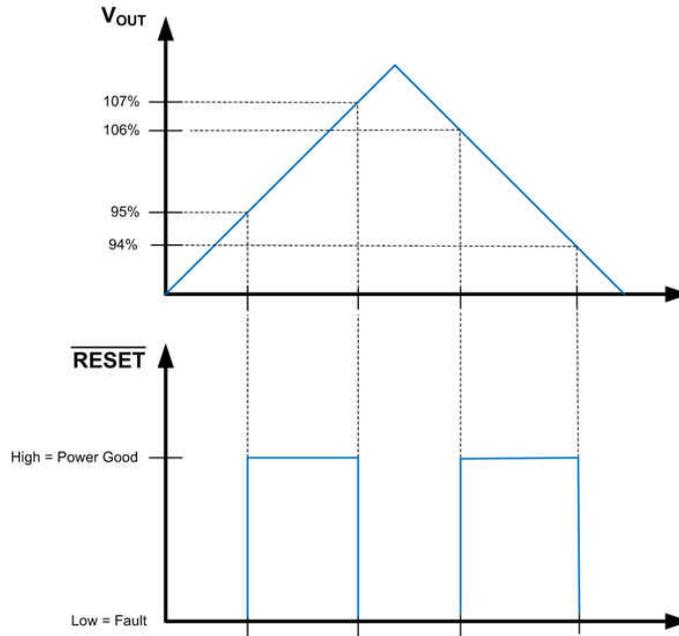
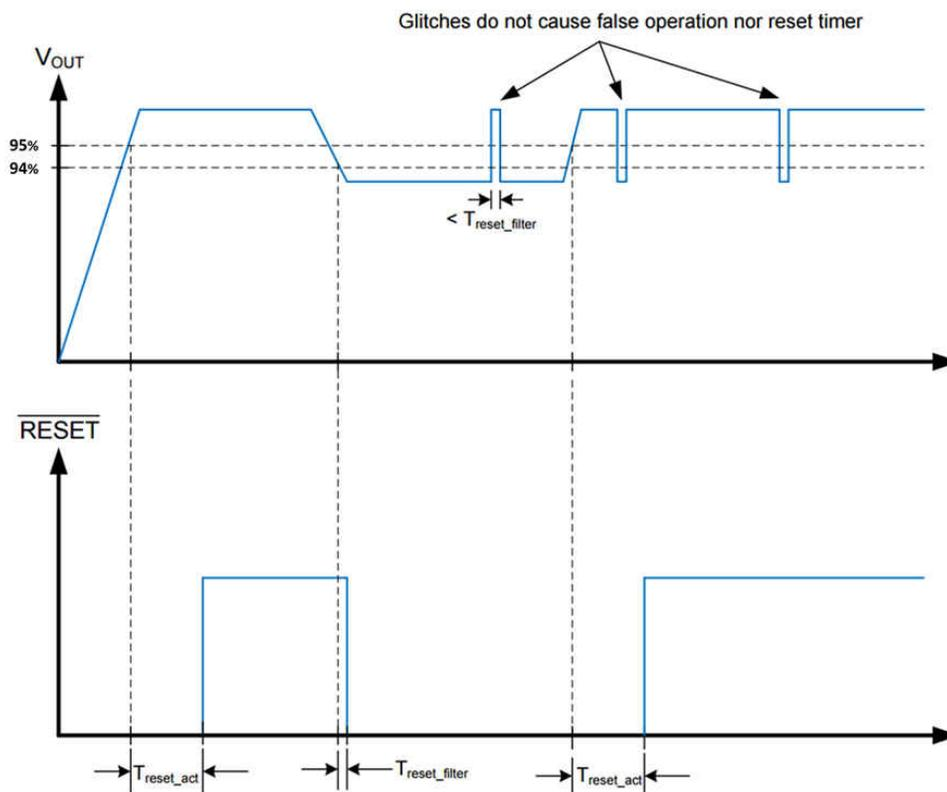

Figure 8-2. Static RESET Operation
Figure 8-3. RESET Timing Behavior
The $\overline{\text{RESET}}$ function, built into the LM53625/35-Q1, has special features not found in the ordinary Power-Good function. A glitch filter prevents false flag operation for short excursions in the output voltage, such as during line and load transients. Furthermore, there is a delay between the point at which the output voltage is within specified limits and the flag asserts Power Good. Because the $\overline{\text{RESET}}$ comparator and the regulation loop share the same reference, the thresholds track with the output voltage. This allows the LM53625/35-Q1 to be specified with a 96.5% maximum threshold, while at the same time specifying a 94 % worst case threshold with respect to the actual output voltage for that device. This allows tighter tolerance than is possible with an external supervisor device. The net result is a more accurate Power-Good function while expanding the system allowance for transients, and so forth. $\overline{\text{RESET}}$ operation can best be understood by reference to Figure 8-2 and Figure 8-3. The values for the various filter and delay times can be found in Section 7.7. Output voltage excursions lasting less than $T_{\text{RESET-filter}}$ do not trip $\overline{\text{RESET}}$. Once the output voltage is within the prescribed limits, a delay of $T_{\text{RESET-act}}$ is imposed before $\overline{\text{RESET}}$ goes high.
- A delay has been added for release of reset. See Figure 8-2 and Figure 8-3 for more detail.